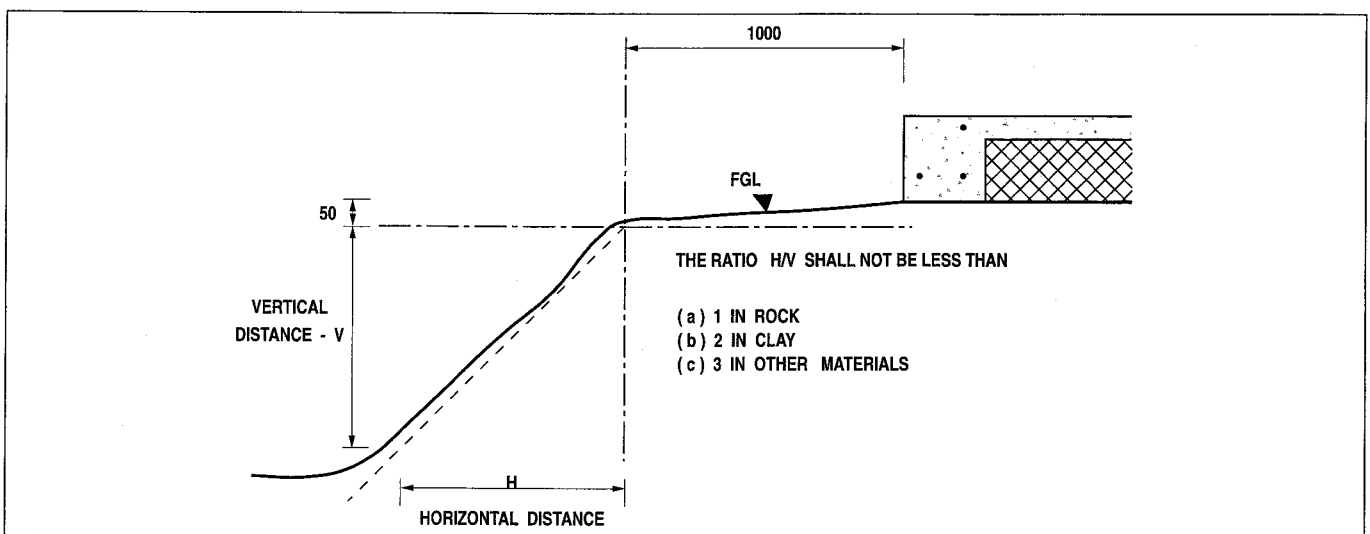

Figure 1 Relationship of RibRaft to Sloping Ground Surface
- any system erected at the top of a slope (whether fill or natural ground) shall be located as shown in Figure 1 so that the finished ground is always outside the dashed line shown. (The vertical distance, V, shall be measured to 50mm below the underside of the slab).
Where the finished ground does not comply with Figure 1, the slope shall be retained by a specifically designed retaining wall.